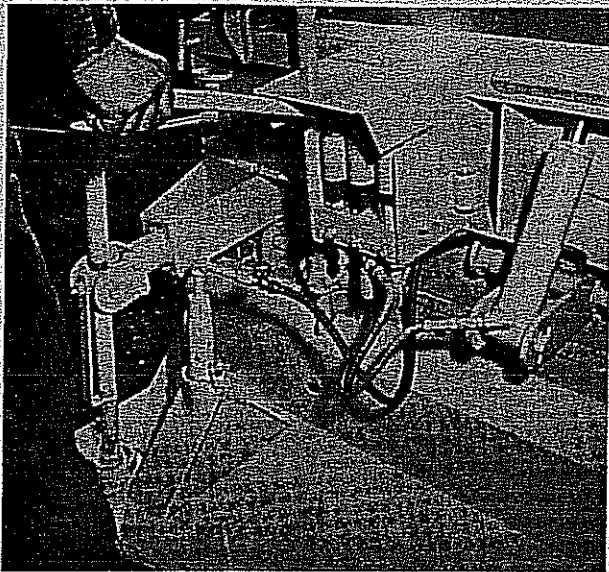

Fig. D-1
1. The central hydraulic system is a three piston single action hand pump which activates the hook-up arms, the shut-off gate, and the screed hoist. (See Figure D-1)